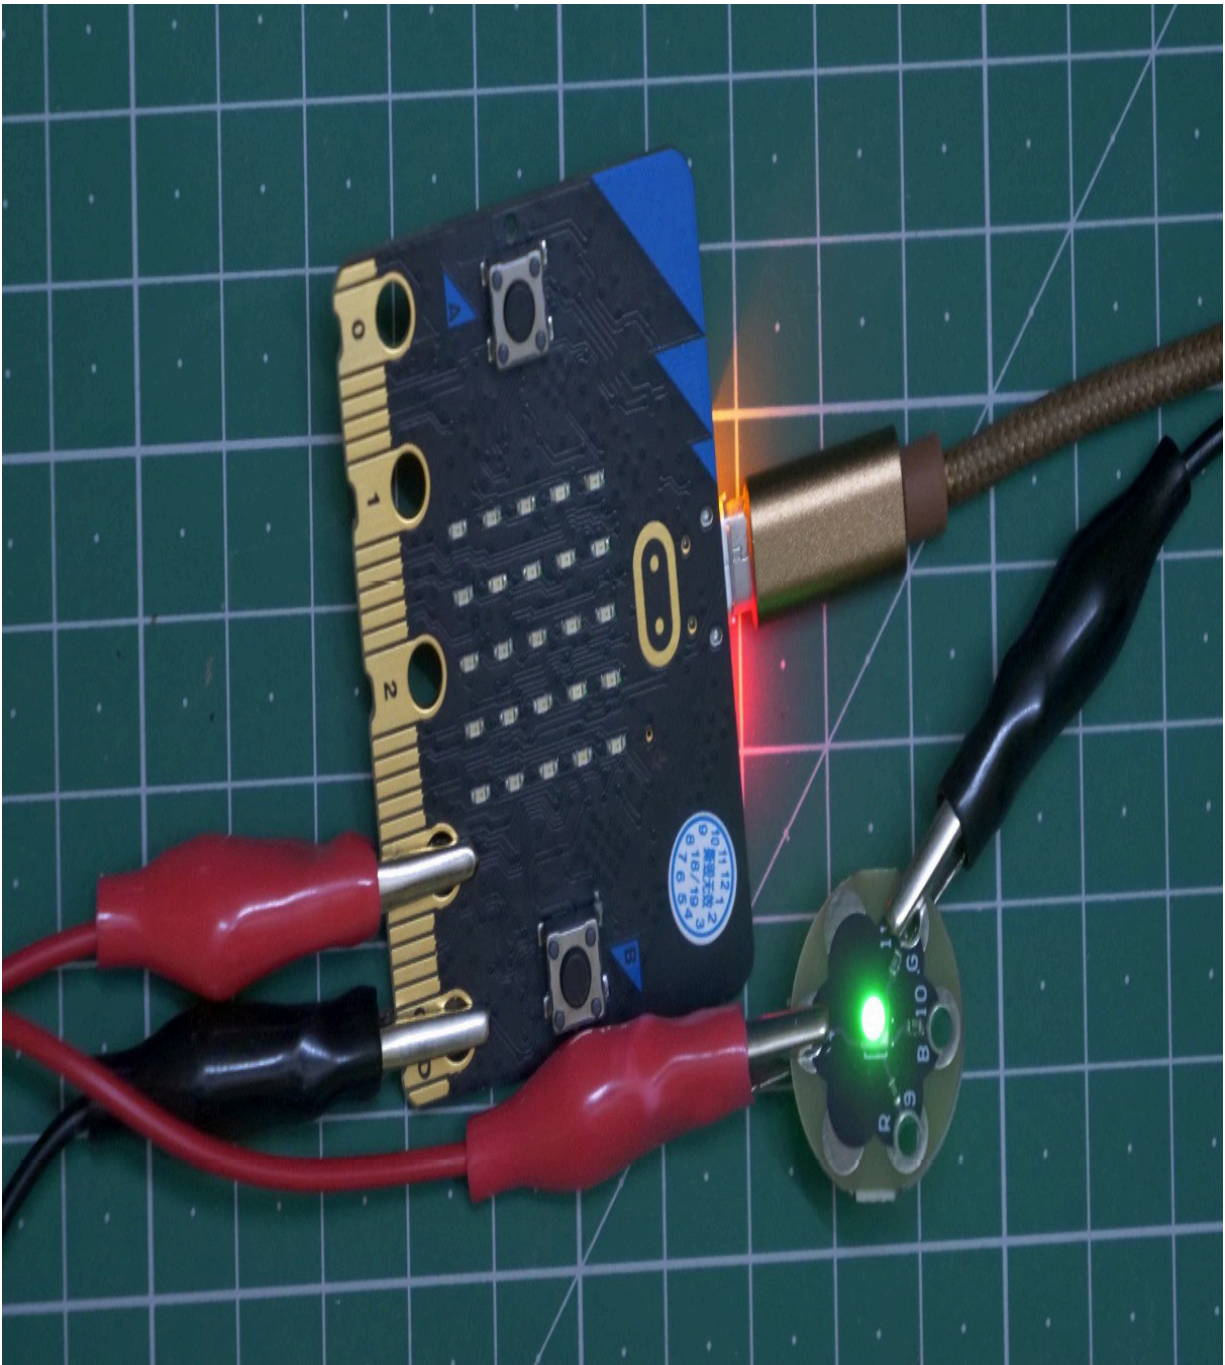

Figure 15.8 – Prototyping with crocodile clips
*Figure 15.8* shows the green-colored section of an RGB LED (in sewable form) powered by the 3V and GND pins of the Micro:bit.